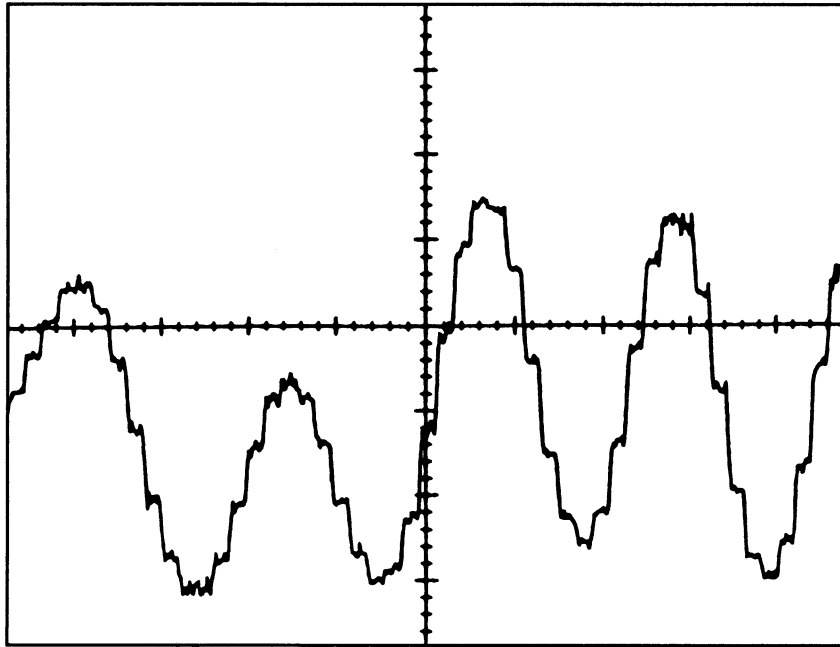

Figure 10. Mod Comp Frequency Step Waveform
- Step 2. Look on the oscilloscope and make sure the repeater is transmitting a clean multiple frequency step waveform as in Figure 10.
- If the frequency response is not flat, as shown in Figure 10, locate R358 on the bottom right-hand corner of the MSF 5000 Uniboard. Adjust it for a flat frequency response. The response should be flat within .25 dB from 5 - 100 Hz. This circuit is *extremely* sensitive! It does not take much adjustment to change the frequency response.
Step 4. Look on the oscilloscope and make sure the repeater is transmitting a clean multiple frequency step waveform as in Figure 10.